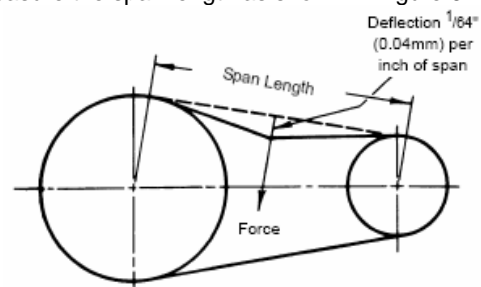

Figure 6 - V-Belt Adjustment
2. With the pump shaft key (35) in place, align the key seat and slide the QD hub (152A) on the shaft, flange end first. Slide the large end of the sheave (152) bore over the taper on the QD hub. Insert the three sheave capscrews (152G) through the clearance holes in the sheave, and start them into the tapped holes of the QD hub (152A). Repeat this procedure to assemble the motor QD hub (152E) and sheave (152D).
3. To install the belts (181), shorten the center distance of the drive by moving the motor towards the pump, until the belts can be put on the sheaves (152 & 152D) without forcing.
5. Measure the span length as shown in Figure 6.